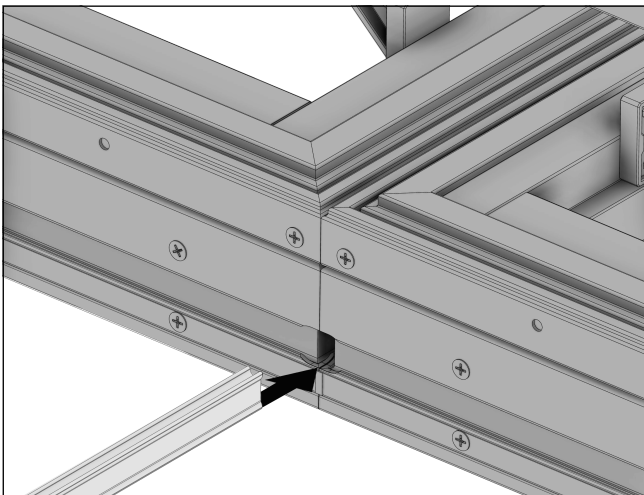

Figure 33 Insert mull pin
6. Insert the mull pin into the t-slot by hand. Align it carefully to avoid damage or misplacement. See Figure 33.